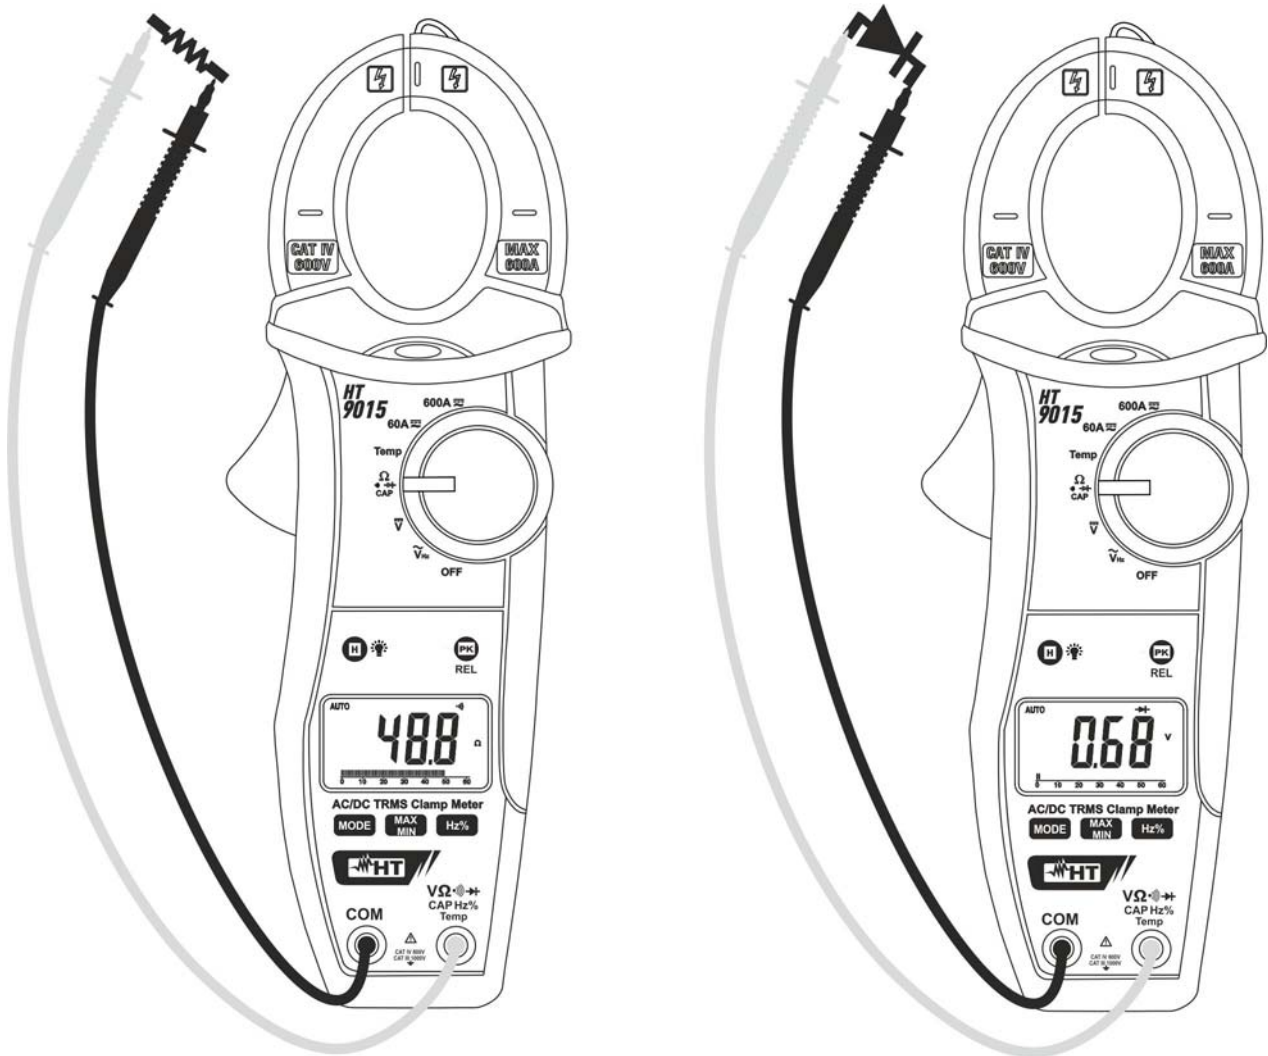

Fig. 6: Taking Continuity test and Diode test
3. Insert the red test lead plug into $V\Omega \rightarrow \rightarrow \rightarrow$ CAPHz%Temp jack and the black test lead plug into **COM** jack and perform continuity test on the object under test (see Fig. 6 – left side). Buzzer emits sound if the measured resistance value is less about 60Ω
5. Connect the red test leads to the anode of diode on test and the black test lead on the cathode ones (see Fig. 6 – right side). Reverse position of test leads to reading reverse polarization voltage